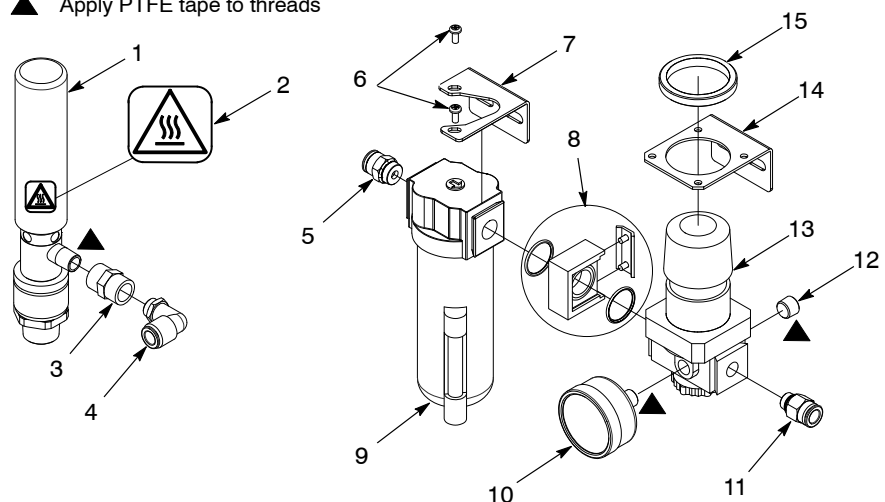

Figure 2 Assembling the Kit
1. See Figure 2. Apply PTFE tape to the threads as shown. Install the fittings (3, 4, 5, 11) to the cooler (1), filter (9), and regulator (13). Tighten the fittings securely.
2. Apply the Hot Surface tag (2) onto the cooler (1) as shown.
3. Connect the filter (9) and regulator (13) to the coupling (8) following the manufacturer's instructions. Tighten the coupling bracket screws securely.
4. Install the bracket (14), lock ring (15), gage (10), and plug (12) onto the regulator (13). Tighten the lock-ring, gage, and plug securely.
5. Install the filter mounting bracket (7) onto the filter (9) using the screws (6). Tighten the screws securely.